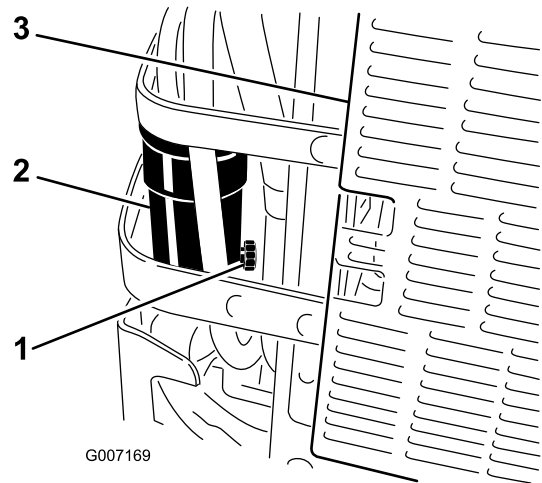

Figure 48
6. Open the drain valve on the water separator approximately one turn to allow water and other contaminants to drain (Figure 48).
7. Close the drain valve when only diesel fuel comes out (Figure 48).